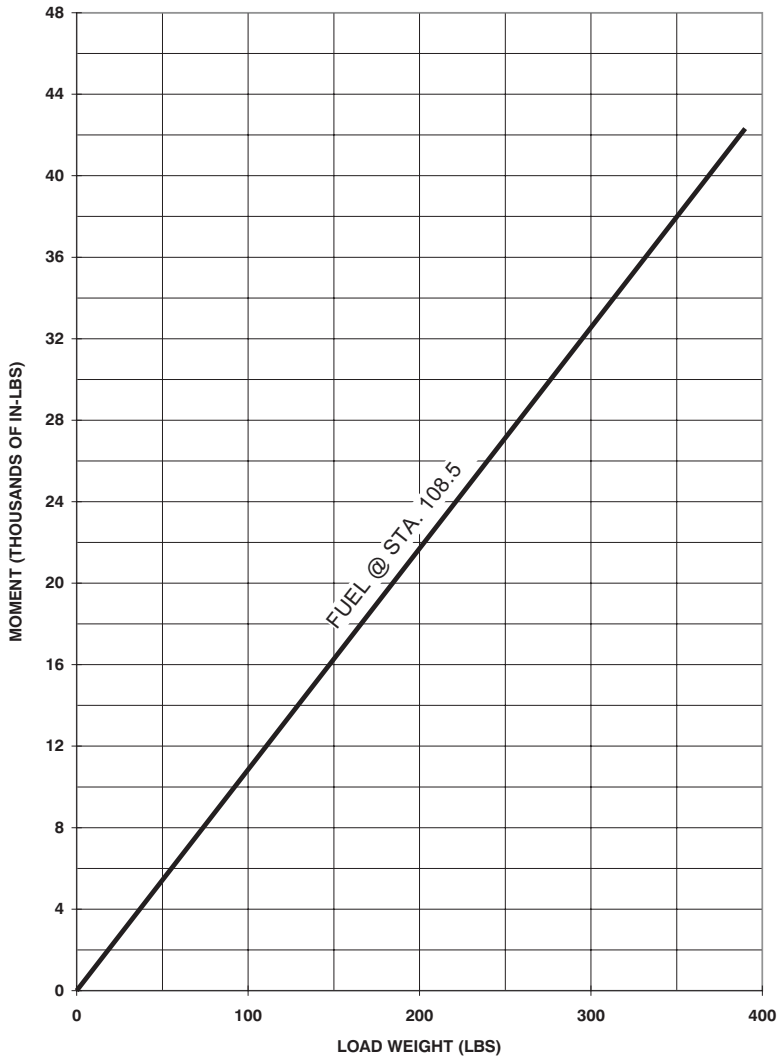

Figure 6-5. Weight and Moment Chart - Longitudinal
- • Determine weights and longitudinal moments of useful load items (see Figure 6-5).